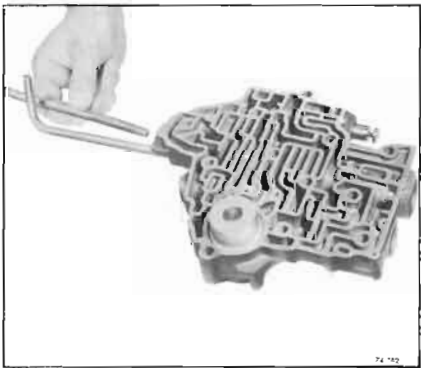

Figure 74-782
2. Install governor pipes into assembly. See Figure 74-782.